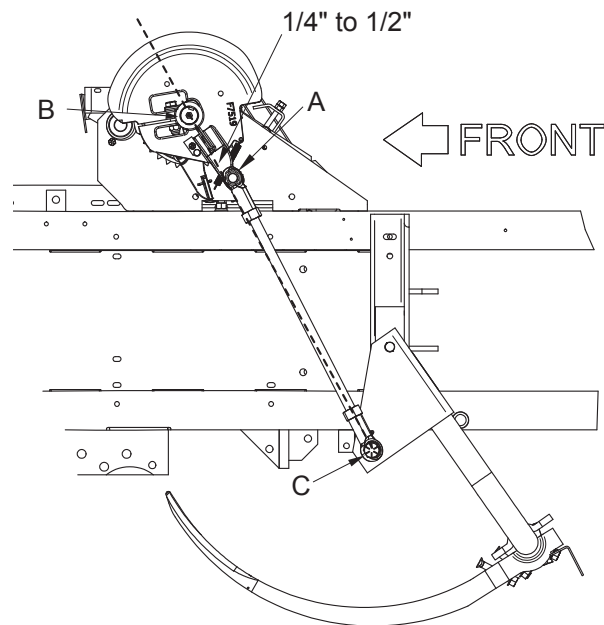

Figure 102. Needles In Home Position
1. With needles in the home position, set the needle yoke drive bolt (A) 1/4" to 1/2" past center between (B) and (C) (see Figure 102). To obtain this setting, adjust saddle roller (A) on the opposite side of the knotter (see Figure 8-6).